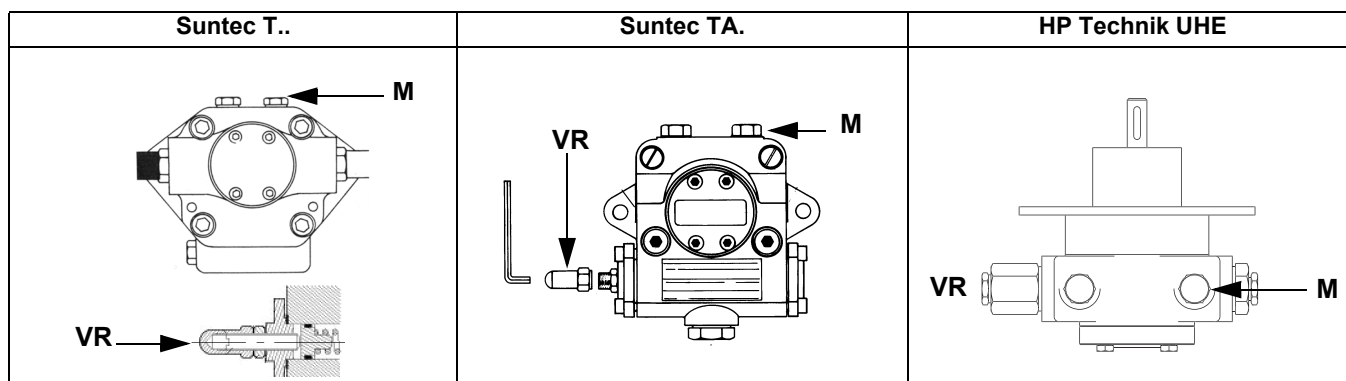
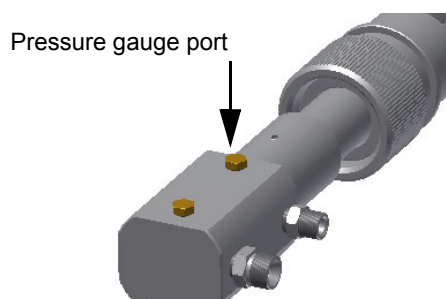

Fig. 23
Fig. 24
- 3 bleed the air from the **M** pressure gauge port (Fig. 23) by loosening the cap without removing it, then release the contactor.
- 5 Only if necessary, adjust the supply pressure as follows (see related paragraph); insert a pressure gauge into the port shown on Fig. 24 and act on the pump adjusting screw **VR** (see Fig. 23) as to get the nozzle pressure at 20bar (Monarch or Fluidics nozzles - see page 44-38).